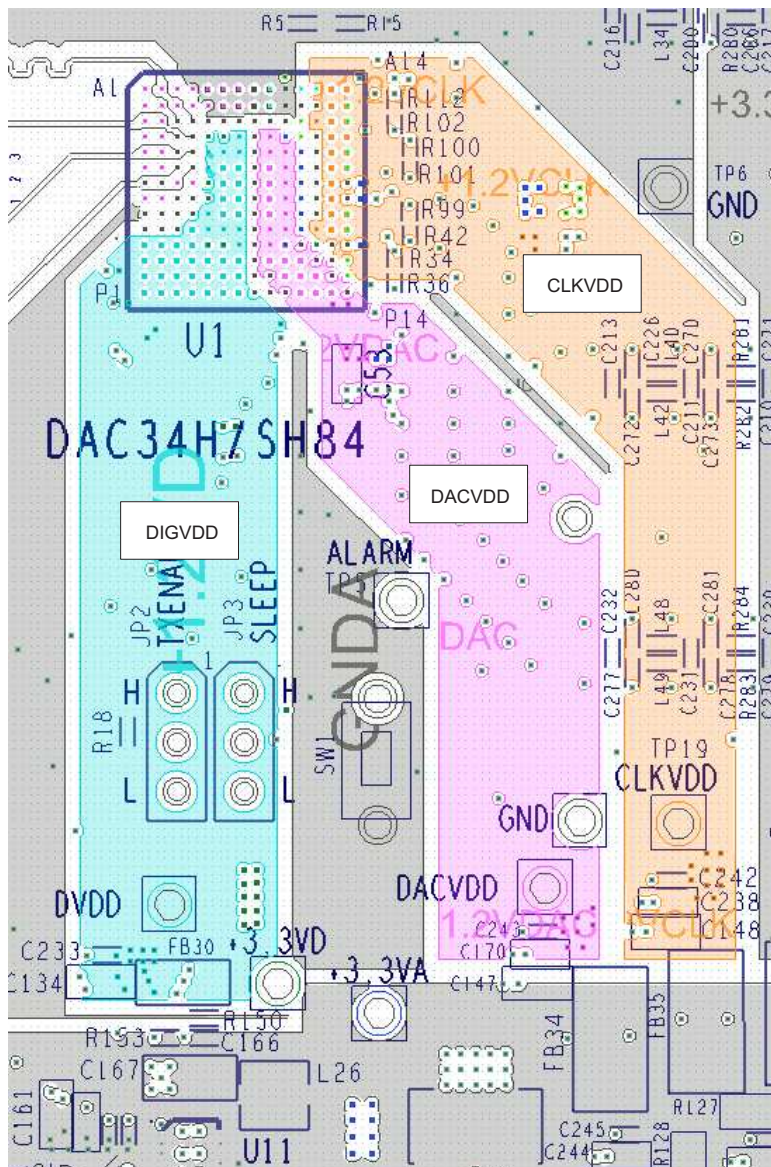

Figure 98. Third Layer of DAC34H84 Layout Showing Power Layers. Layout Example from DAC34H84EVM Rev H
The following layout guidelines correspond to the layouts shown in Figure 98 and Figure 99.
2. As shown in Figure 98 and Figure 99, both layers three and four are designated for power supply planes. The DAC analog powers are all in the same layer to avoid coupling with each other, and the planes are copied from layer three to layer four for double the copper coverage area.